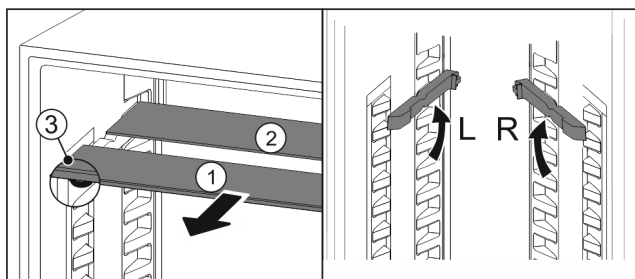

Fig. 121
- Pull the glass panels out Fig. 121 (1) from the front, one at a time.
- The glass panel Fig. 121 (1) and trim strip are at the front.
- The stops Fig. 121 (3) point down.